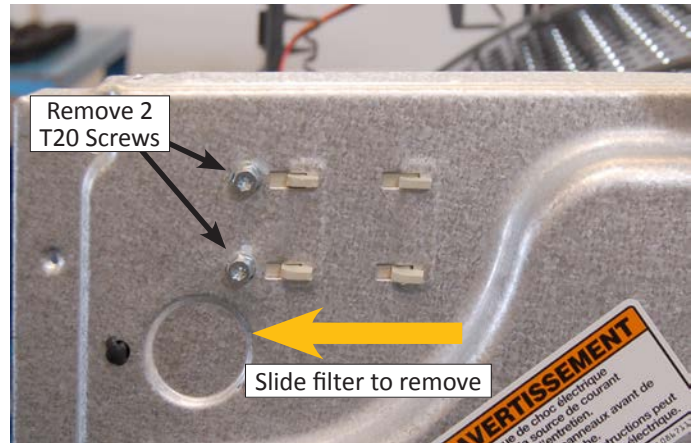

Figure 2
- Slide the Interference Filter horizontally to release the filter from back panel. See Figure 2.